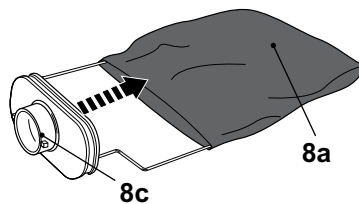

Fig. 10
- > Remove the dust bag (8a) from the connector (8c) (Fig. 10) by gently pulling on the elasticated collar and empty dust into a suitable rubbish bag.